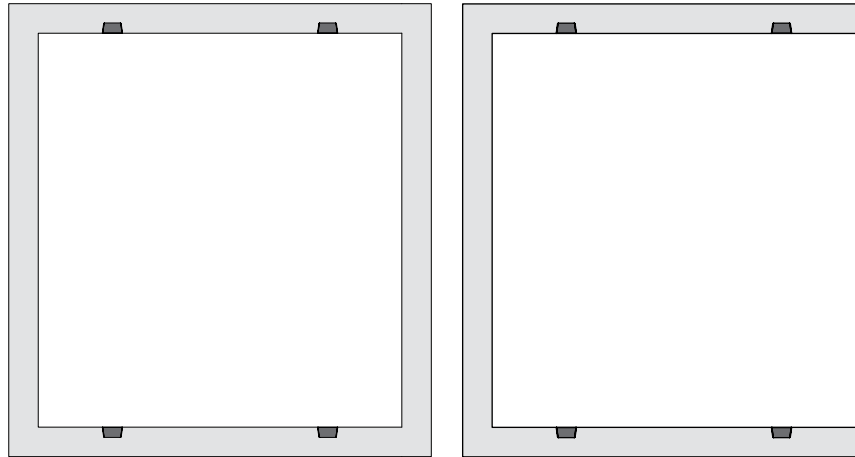

Fig. A1.01
- Use of the Gravity Pivot Plate BR with closed and open shafts. (Fig. A1.01)